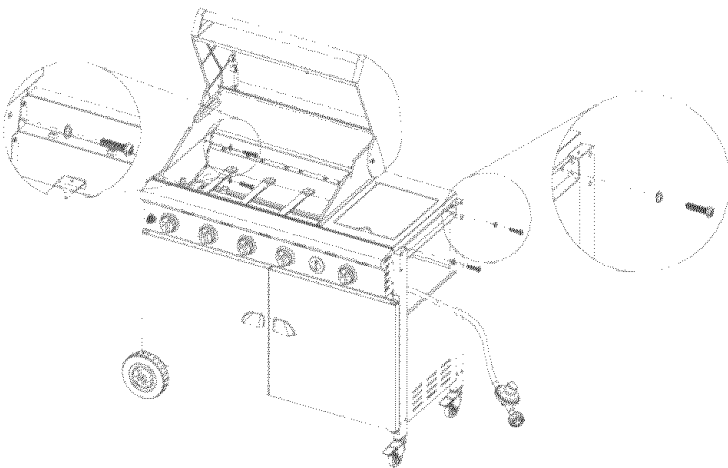

Figure 11
3. Attach the grill head to right side panel using (4) $\frac{1}{4}$ x $\frac{3}{5}$ " screws with (4) $\frac{1}{4}$ " washers. (Fig. 11)